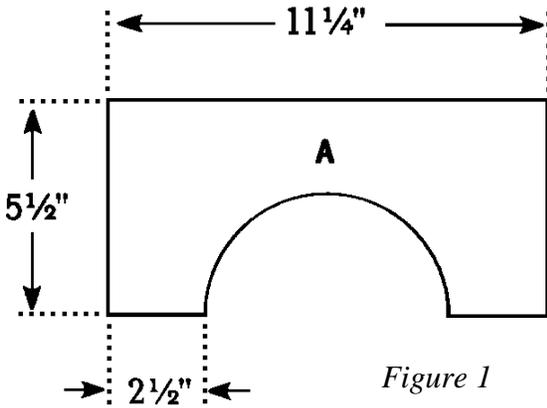

Figure 1
1. Cut two Lower Sides (A) from 1 x 6 pine, each measuring 11-1/4 inches.
- Referring to *Figure 1* mark and cut out a semi-circle on one 11-1/4-inch long edge of each of the two Lower Sides (A). Our semicircle has a 6-1/2" radius, but cut to any radius you choose.